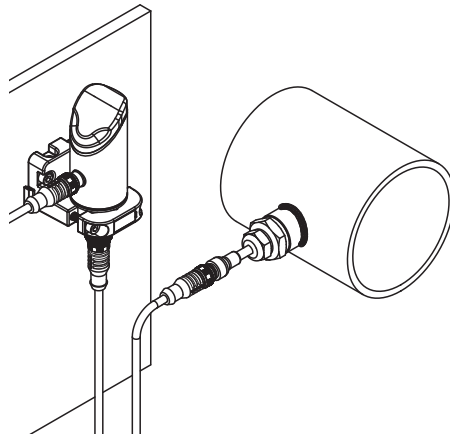

Fig. 6: Installing FS121...
- ▶ Specify the cable length of the connected flow sensor (see fig. 6 and parameter **CLEn**).